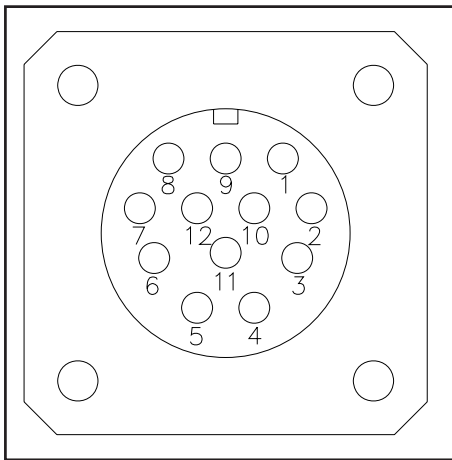

Figure 2-1
The 5881/5882 is equipped with a precision 5V reference. The reference voltage is available at terminal 11 (ref. to fig. 2-1) for use in conjunction with potentiometer to provide a 0-5 Vdc command.
The command input hook-up is as follows: a. Connect the external command voltage to terminal 8, (command input) and to terminal 1 (command input return). Refer to figure 2-1.
The valve override function allows full opening and closing of the valve independent of the command setting. The valve override function can be accessed from terminal 12. Refer to figure 2-1.
The cable screen should be connected to the metal connector or gland and shielded at both ends over 360 degrees. For pin configuration, please refer to fig. 2-1 and 2-2 or 2-3 and 2-4.
- a. After the flow controller has been installed in the flow system and the connecting cable attached (refer to fig 2-1), apply power, set the command to 100%, and purge the controller with liquid to a minimum of 15 minutes or give V.O.R. + for some minutes. This is most important if the process liquid contains elements which will react with air components to form corrosive or precipitative mixtures. It will also preserve the accuracy and life of the controller. This purge should also be performed when a controller is being removed from an active, corrosive, or toxic process liquid line.